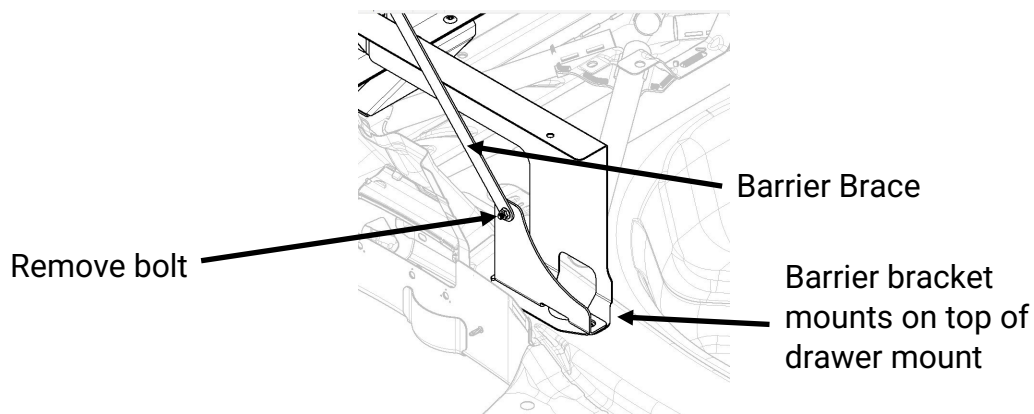

Figure 4
- B. Remove the bolt that secures the brace to it's mounting bracket (see Figure 4).
- B. Place [3CSD472024] over the OEM holes. If the barrier is present [3CSD472024] will set below the barrier bracket (See Figure 4 above).